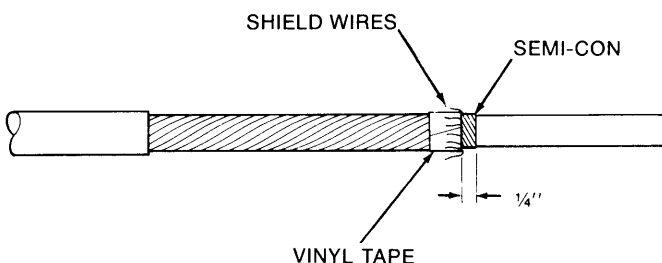

Figure 2
4. Fold loose shield wires back and cut off at center of vinyl tape (Figure 2).
5. Remove cable semi-con, leaving 1/4" exposed beyond folded back wires (Figure 2).